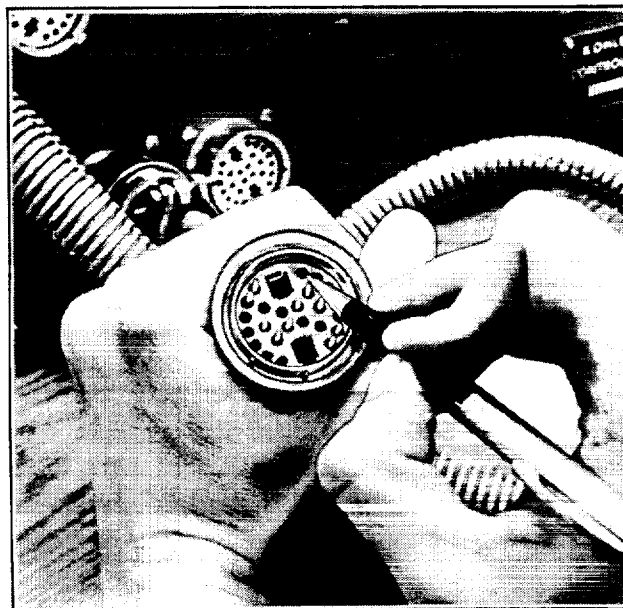

Figure 8. P2 Plug, Pin Position
9. Run supplied lead 30 through harness to P2 plug. Open P2 plug harness clamp and push pin into rear of P2 plug at position K (Figure 8). Close P2 plug harness clamp.